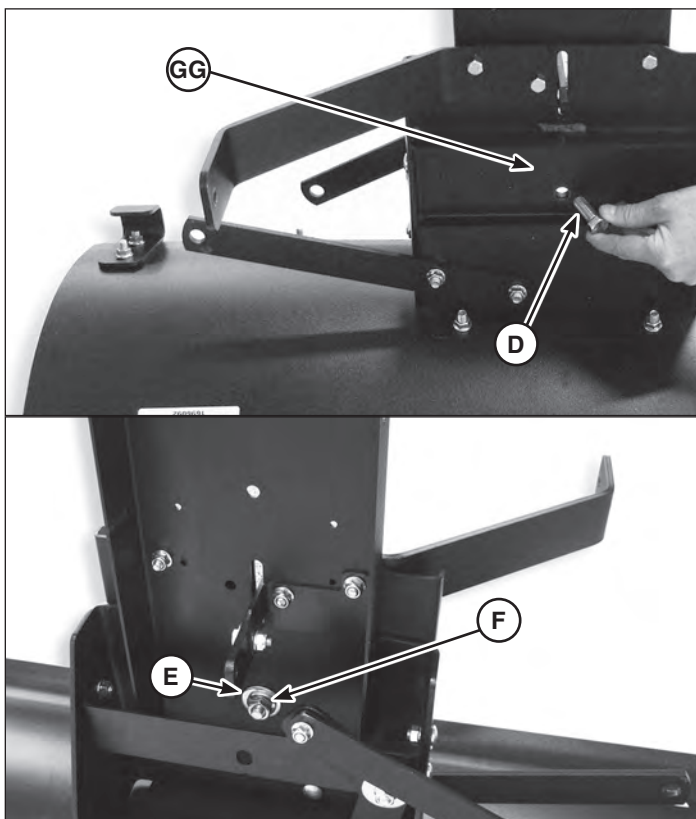

Figure 9
3. Slide hitch pivot assembly (**GG**) onto blade assembly lining up holes and insert capscrew (**D**, Figure 9).